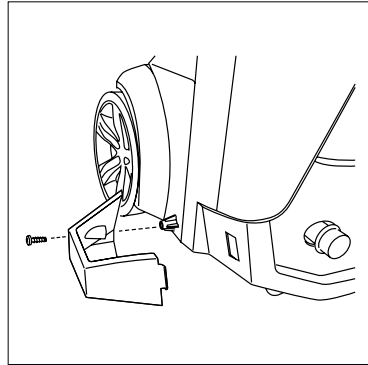

Fig. 2
- Slip tab into slot and screw the nozzle tray on the bottom portion of the unit. (Fig. 2) When placing the gun with the lance attached the nozzle will rest in this tray.